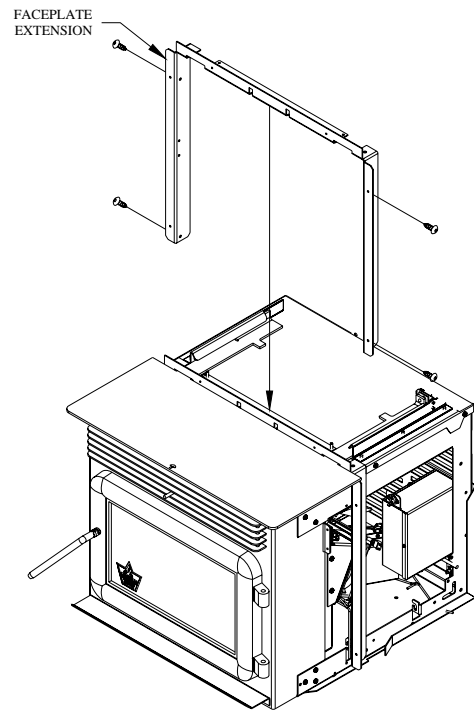

Figure 29
- 5- Attach the faceplate extension to the stove. (Figure 29)